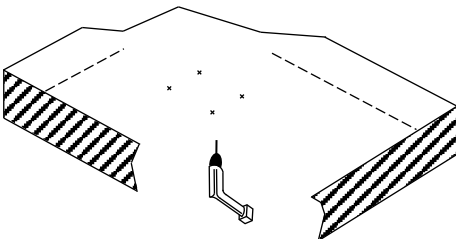

Fig 4
2. Drill out the holes (Fig 4).